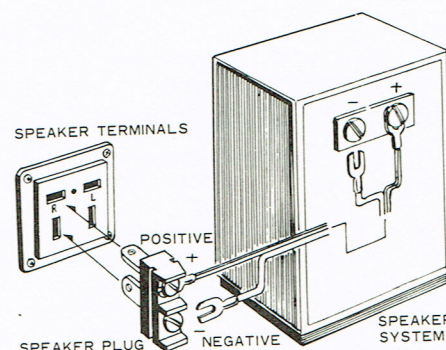

Fig. 8
- As shown in Fig. 8, the loudspeaker leads are connected to the speaker plug furnished with this receiver. In this case, be sure that the positive loudspeaker lead is connected to the positive terminal on the plug with reference to Fig. 8.